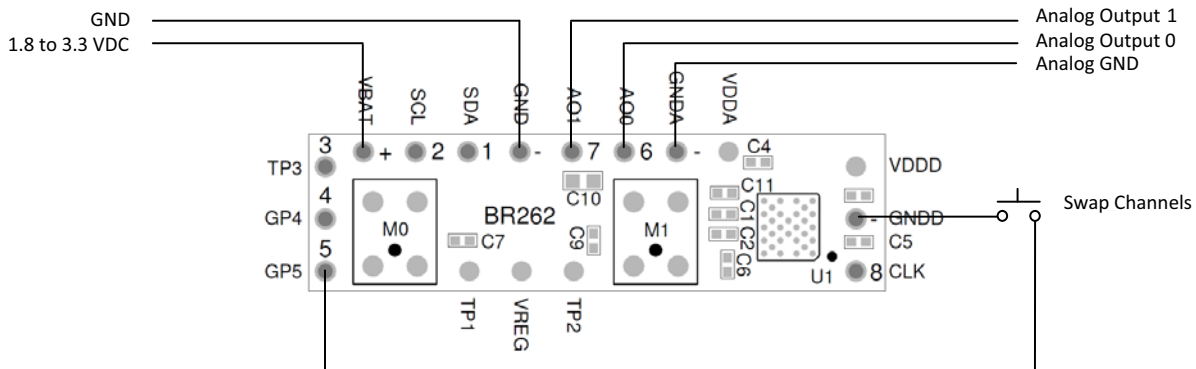

Figure 2. BelaSigna R262 Prototyping Module Typical Connections
The analog output signals are available on AO0 (6), AO1 (7), and GNDA (-). An optional momentary push-button control can be connected between GP5 (5) and GNDD (-) that can be used to swap the two processed outputs between AO0 and AO1. The pinout for the module, along with typical connections are illustrated in Figure 2. The analog outputs of the device can be connected to your system’s analog inputs as single-ended signals using AO0 and GNDA and/or AO1 and GNDA. If the module is re-configured to output a mono, differential analog output by changing the CHAN_SEL resistors R4 and R5, via I²C commands, or by loading a custom application, you can connect AO0 and AO1 to your system as a differential analog signal.